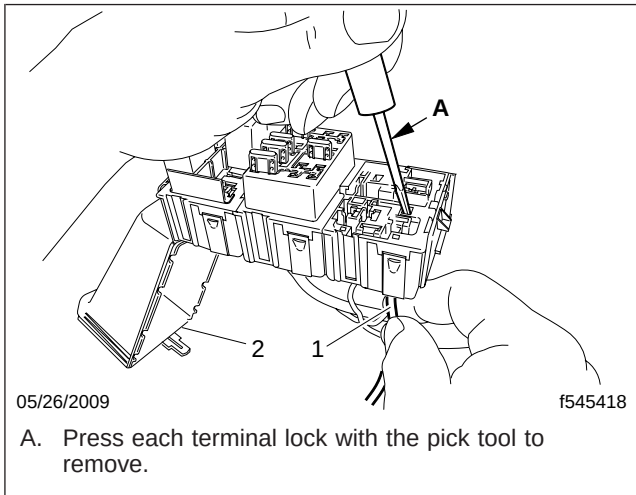

Fig. 4, Removing the Wire with a Pick Tool
8. Remove the wires under the PDM by pressing each terminal lock with a pick tool. See Fig. 4.